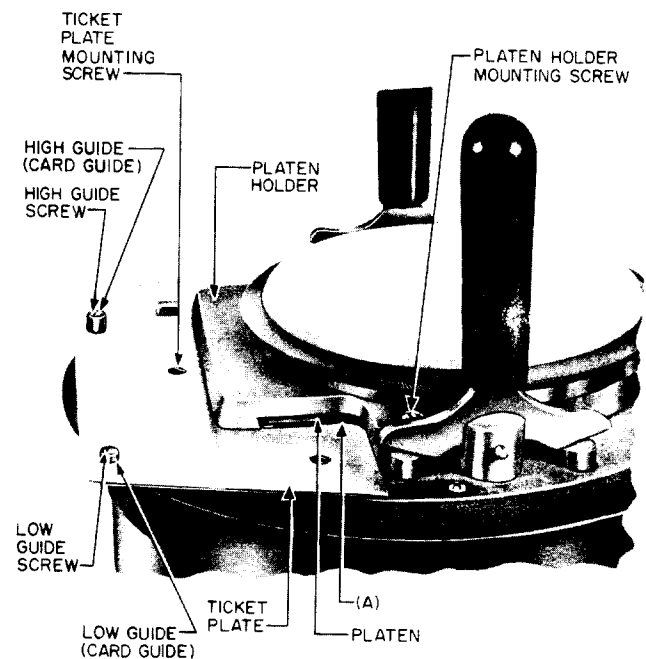

Fig. 11 — Ticket Plate, Platen, and Associated Parts
1.02 This section is reissued to add the requirement and procedure covering the clearance between the card guides and the IBM card, to add Fig. 11, and to omit the information for the replacement of parts now covered in Section 030-102-801.